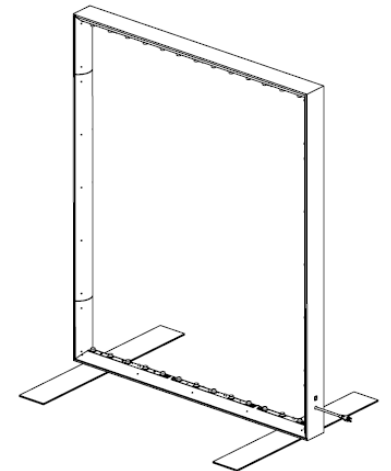

Figure 17
6. Re-secure the cover(s) to the frame with the retained screws using a Phillips head screwdriver. Make sure not to crimp any electrical wires under the edge of the cover. **See Figure 17.**